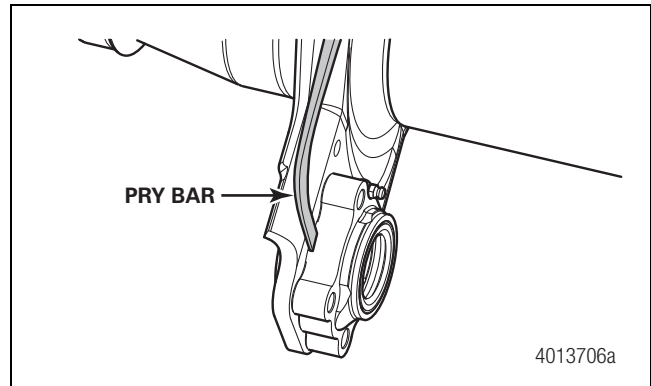

Figure 11.39
- 4. Use the pry bar to loosen and remove bolt-on bushing housing from the spider. Figure 11.39.